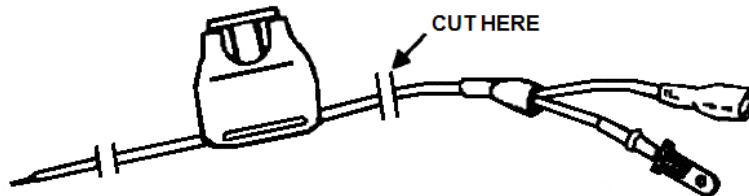

Figure 14: Fuse Holder Cable Assembly
4. Cut the two wires that split off the fuse holder cable assembly as close to the heat shrink wrap as possible and strip 1/4" of insulation off the resulting single wire (Fig. 14).